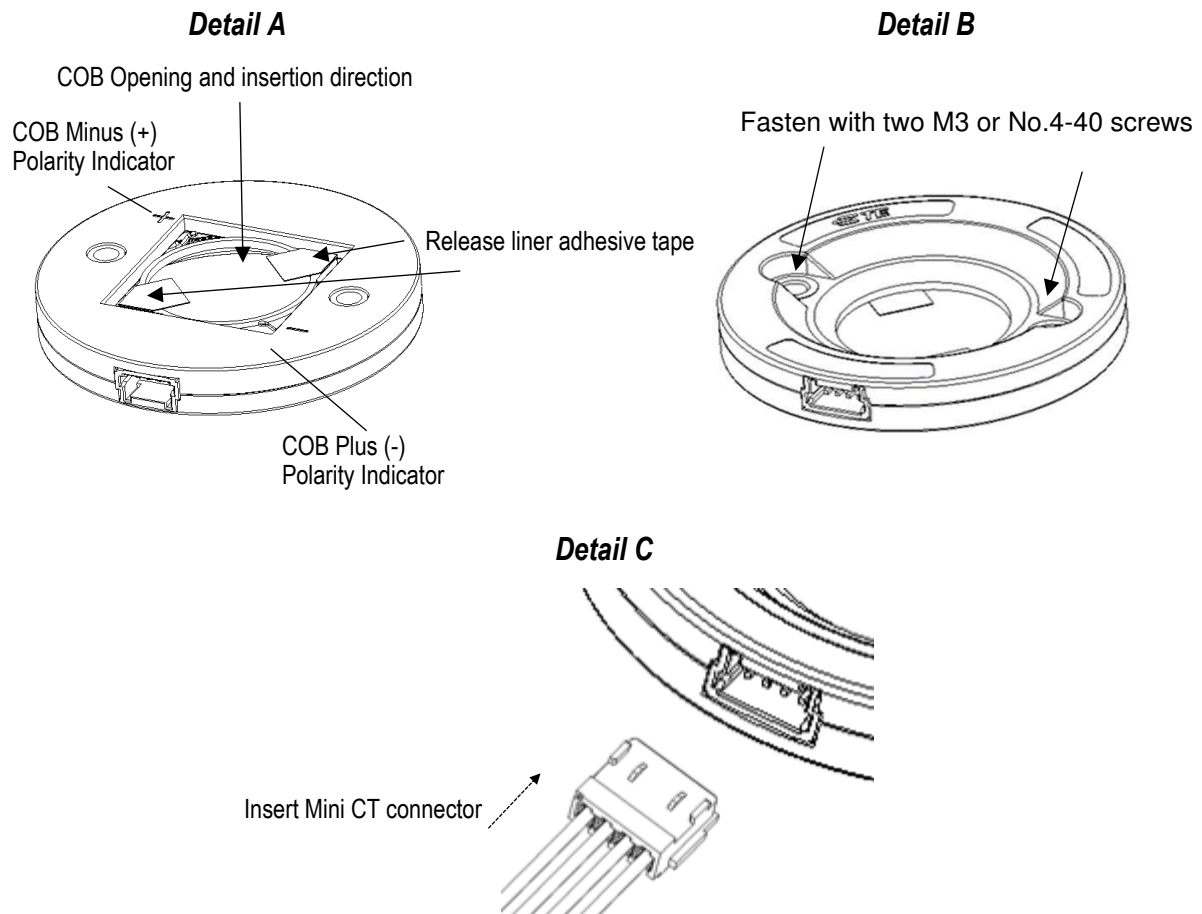

Figure 7
2. Remove release liner of adhesive tape, insert the COB and ensure you do not press the light emitting (yellow part) part of the COB. The LED polarity indicator must be observed when orienting the COB into the COB opening. Light pressure needs to be applied to the bottom of the COB to overcome the resistance of the crush ribs, which ensures centralization of the COB in the LUMAWISE Drive: DALI-2 Series. The COB will stay in place thanks to the adhesive tape. See Figure 7, details A.
3. The LUMAWISE Drive: DALI-2 Series (bottom side) must be placed on the cooling device with TIM material recommended phase change style or grease in between, so that the screws holes align over the holes in the cooling device. The LUMAWISE Drive: DALI-2 Series must be secured to the cooling device using two customer-supplied M3 or No. 4-40 with minimum length of 12 mm mounting screws. Each mounting screw should be tightened to a torque between 0.4 Nm and 0.6 Nm [3.45 and 5.31 in.-lb]. See Figure 7, detail B.
4. Insert the Mini CT connector into the socket before energizing, please ensure the keying is in the correct position. See Figure 7, detail C.